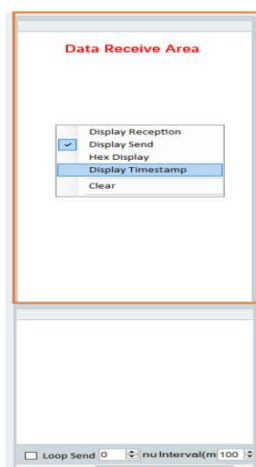

Figure 2-2 Right-click Menu in the Data Reception Area
(1) The area on the left is used to set the port, data communication mode, and baud rate. Click Download to download firmware.
(2) The center area consists of two sections. The upper section is the Menu Bar, where display modes, automatic data saving, and other view-related parameters can be configured. The lower section is the data view, where parsed data is displayed.
(3) The area on the right consists of two sections. The upper section is the data reception area. Right-click in this area to open the menu shown in Figure 2-2, where you can choose whether to display transmitted data, received data, timestamps, and hexadecimal data. Because received data is continuously refreshed and may affect tool performance, displaying received data is generally not recommended. The lower section is the data transmission area, which functions like a serial-port assistant and is normally used only during debugging.